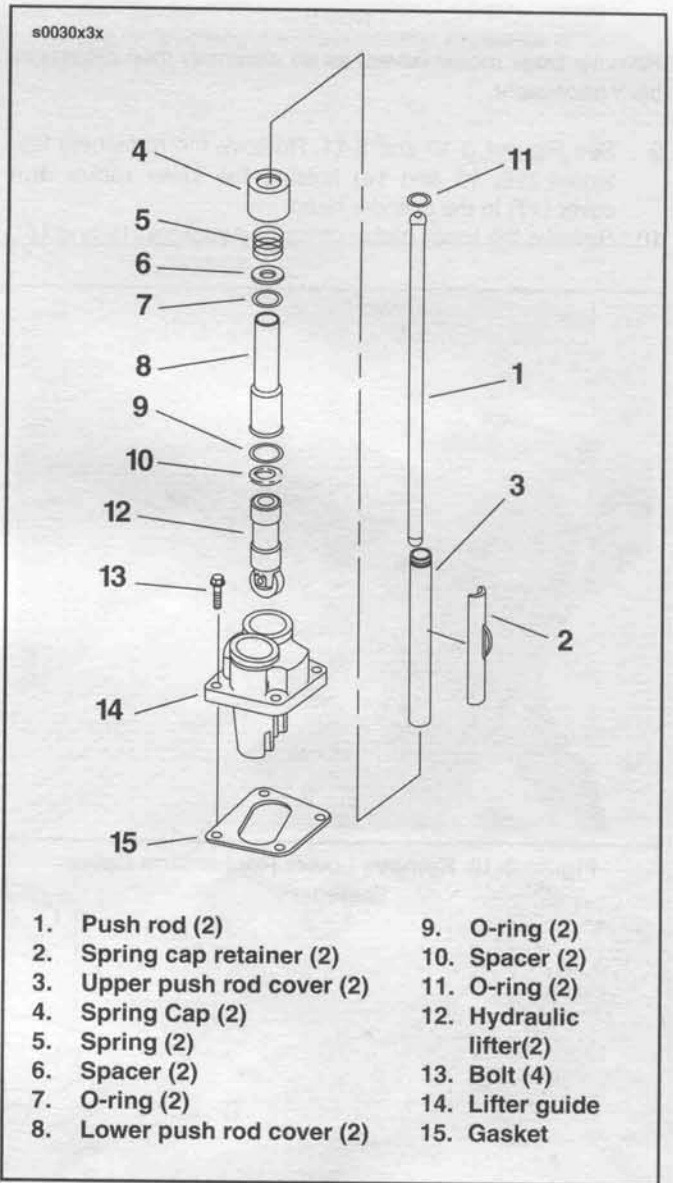

Figure 3-9. Rocker Arm Push Rod and Cover
7. See Figure 3-9. Remove the push rods (1) and mark their location and orientation, top and bottom.